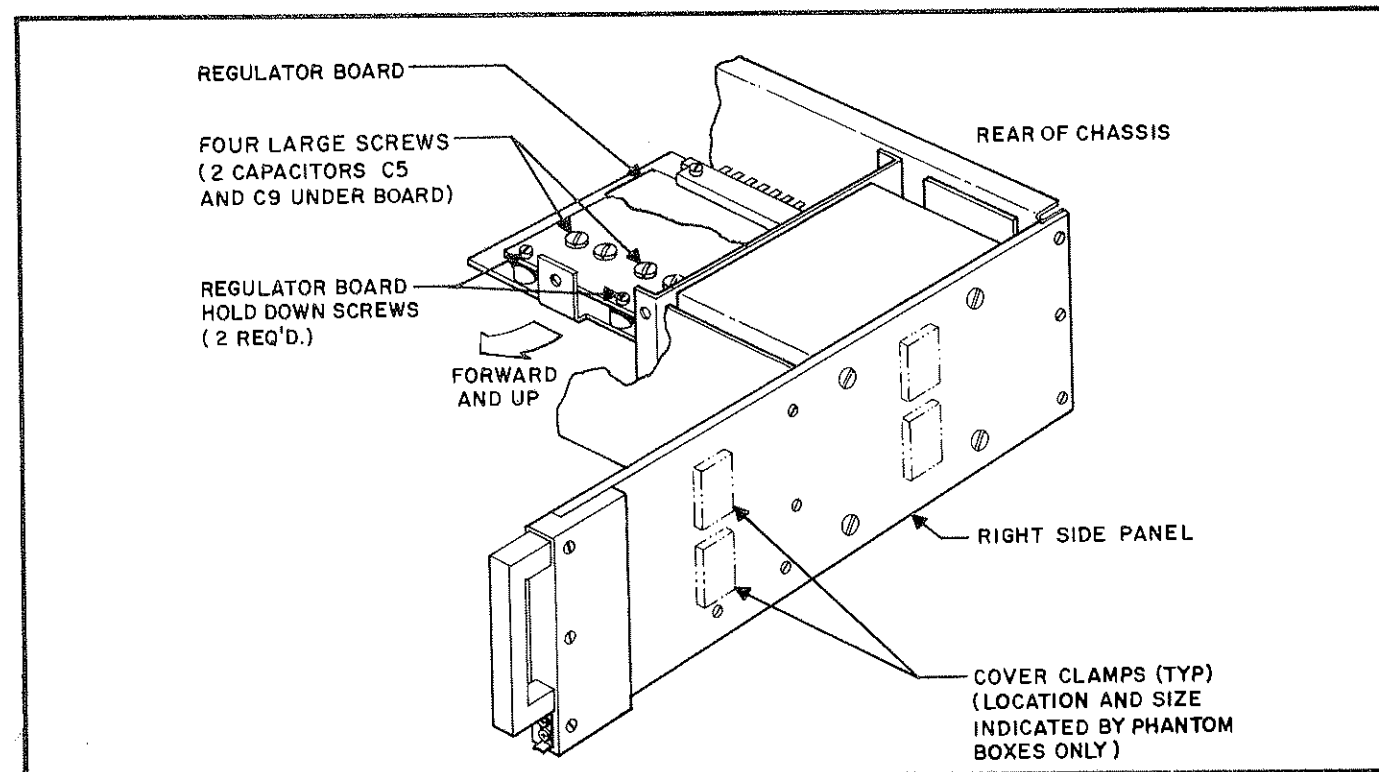

Figure 5.2 Power Supply Regulator Board (1A6A1)
5.8.3.2 To remove Regulator board (1A6A1), take out four large screws holding two capacitors (1A6A1-C5 and C9) as shown in Figure 5.2. Next, unfasten two hold down screws and pull the board forward and slightly upward to remove.
5.8.3.3 To take out the entire power supply from the chassis, remove only the screws, shown in Figure 5.2, from the RIGHT SIDE PANEL. DO NOT remove the cover clamps and their associated hardware.